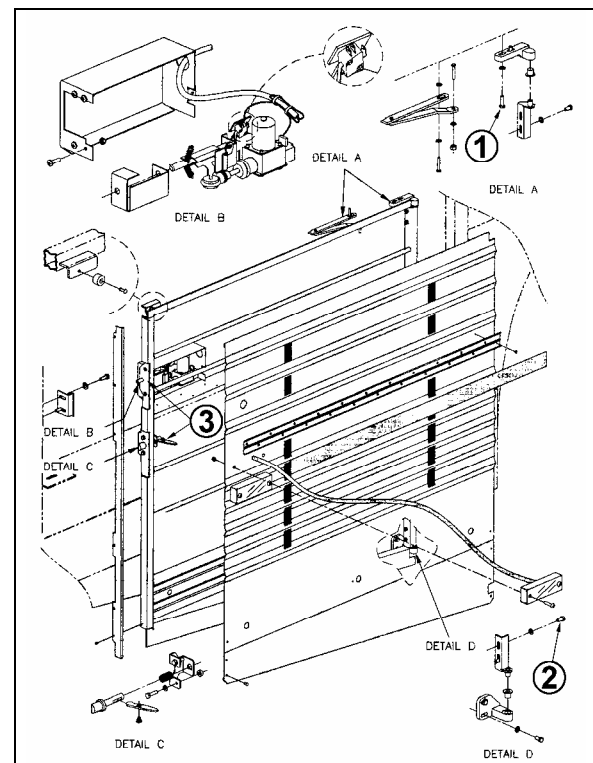

FIGURE 30: ENGINE COMPARTMENT R.H. SIDE DOOR 18635
1. Loosen the bolts, (1, Fig. 30) holding the hinge to the vehicle structure to shift the door "IN or OUT" and "UP or DOWN".
2. Loosening the bolts (2, Fig. 30) allows the door to be shifted "LEFT or RIGHT" and "UP or DOWN".
To adjust the latch mechanism (3, Fig. 30) and the striker pin: